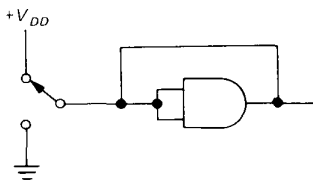

Figure 9.10. Switch debouncer: noninverting gate with feedback.
5. Use the circuit shown in Figure 9.10, with either a noninverting gate or buffer.